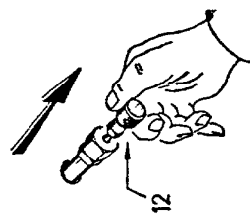
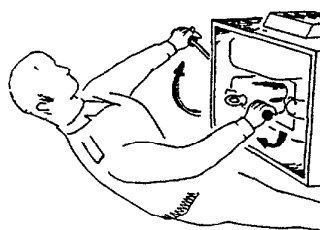
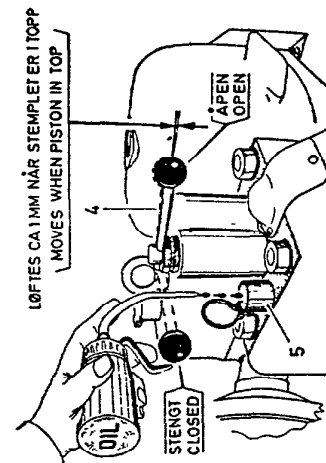

Fig. 4
Fig. 5
Fig. 6
Pull out the excess fuel knob (fig. 4, pos. 12) and fill cold starting oil cup (fig. 6, pos. 5) with *lubricating oil*.
3. Open decompressor. Handle (4) pointing forward.
4. Stand on starboard side of engine (fig. 5) with your right hand on decompressor handle and operate starting handle with your left hand. Crank rapidly and close decompressor by turning handle to starboard.
4. Fill oil cup (fig. 6, pos. 5) on cylinder head *two times with lubricating oil* to preserve cylinder and ease next starting.
Turn engine by hand a few times and leave piston in top dead center (TDC) noticed by piston touching the decompressor valve (fig. 6).